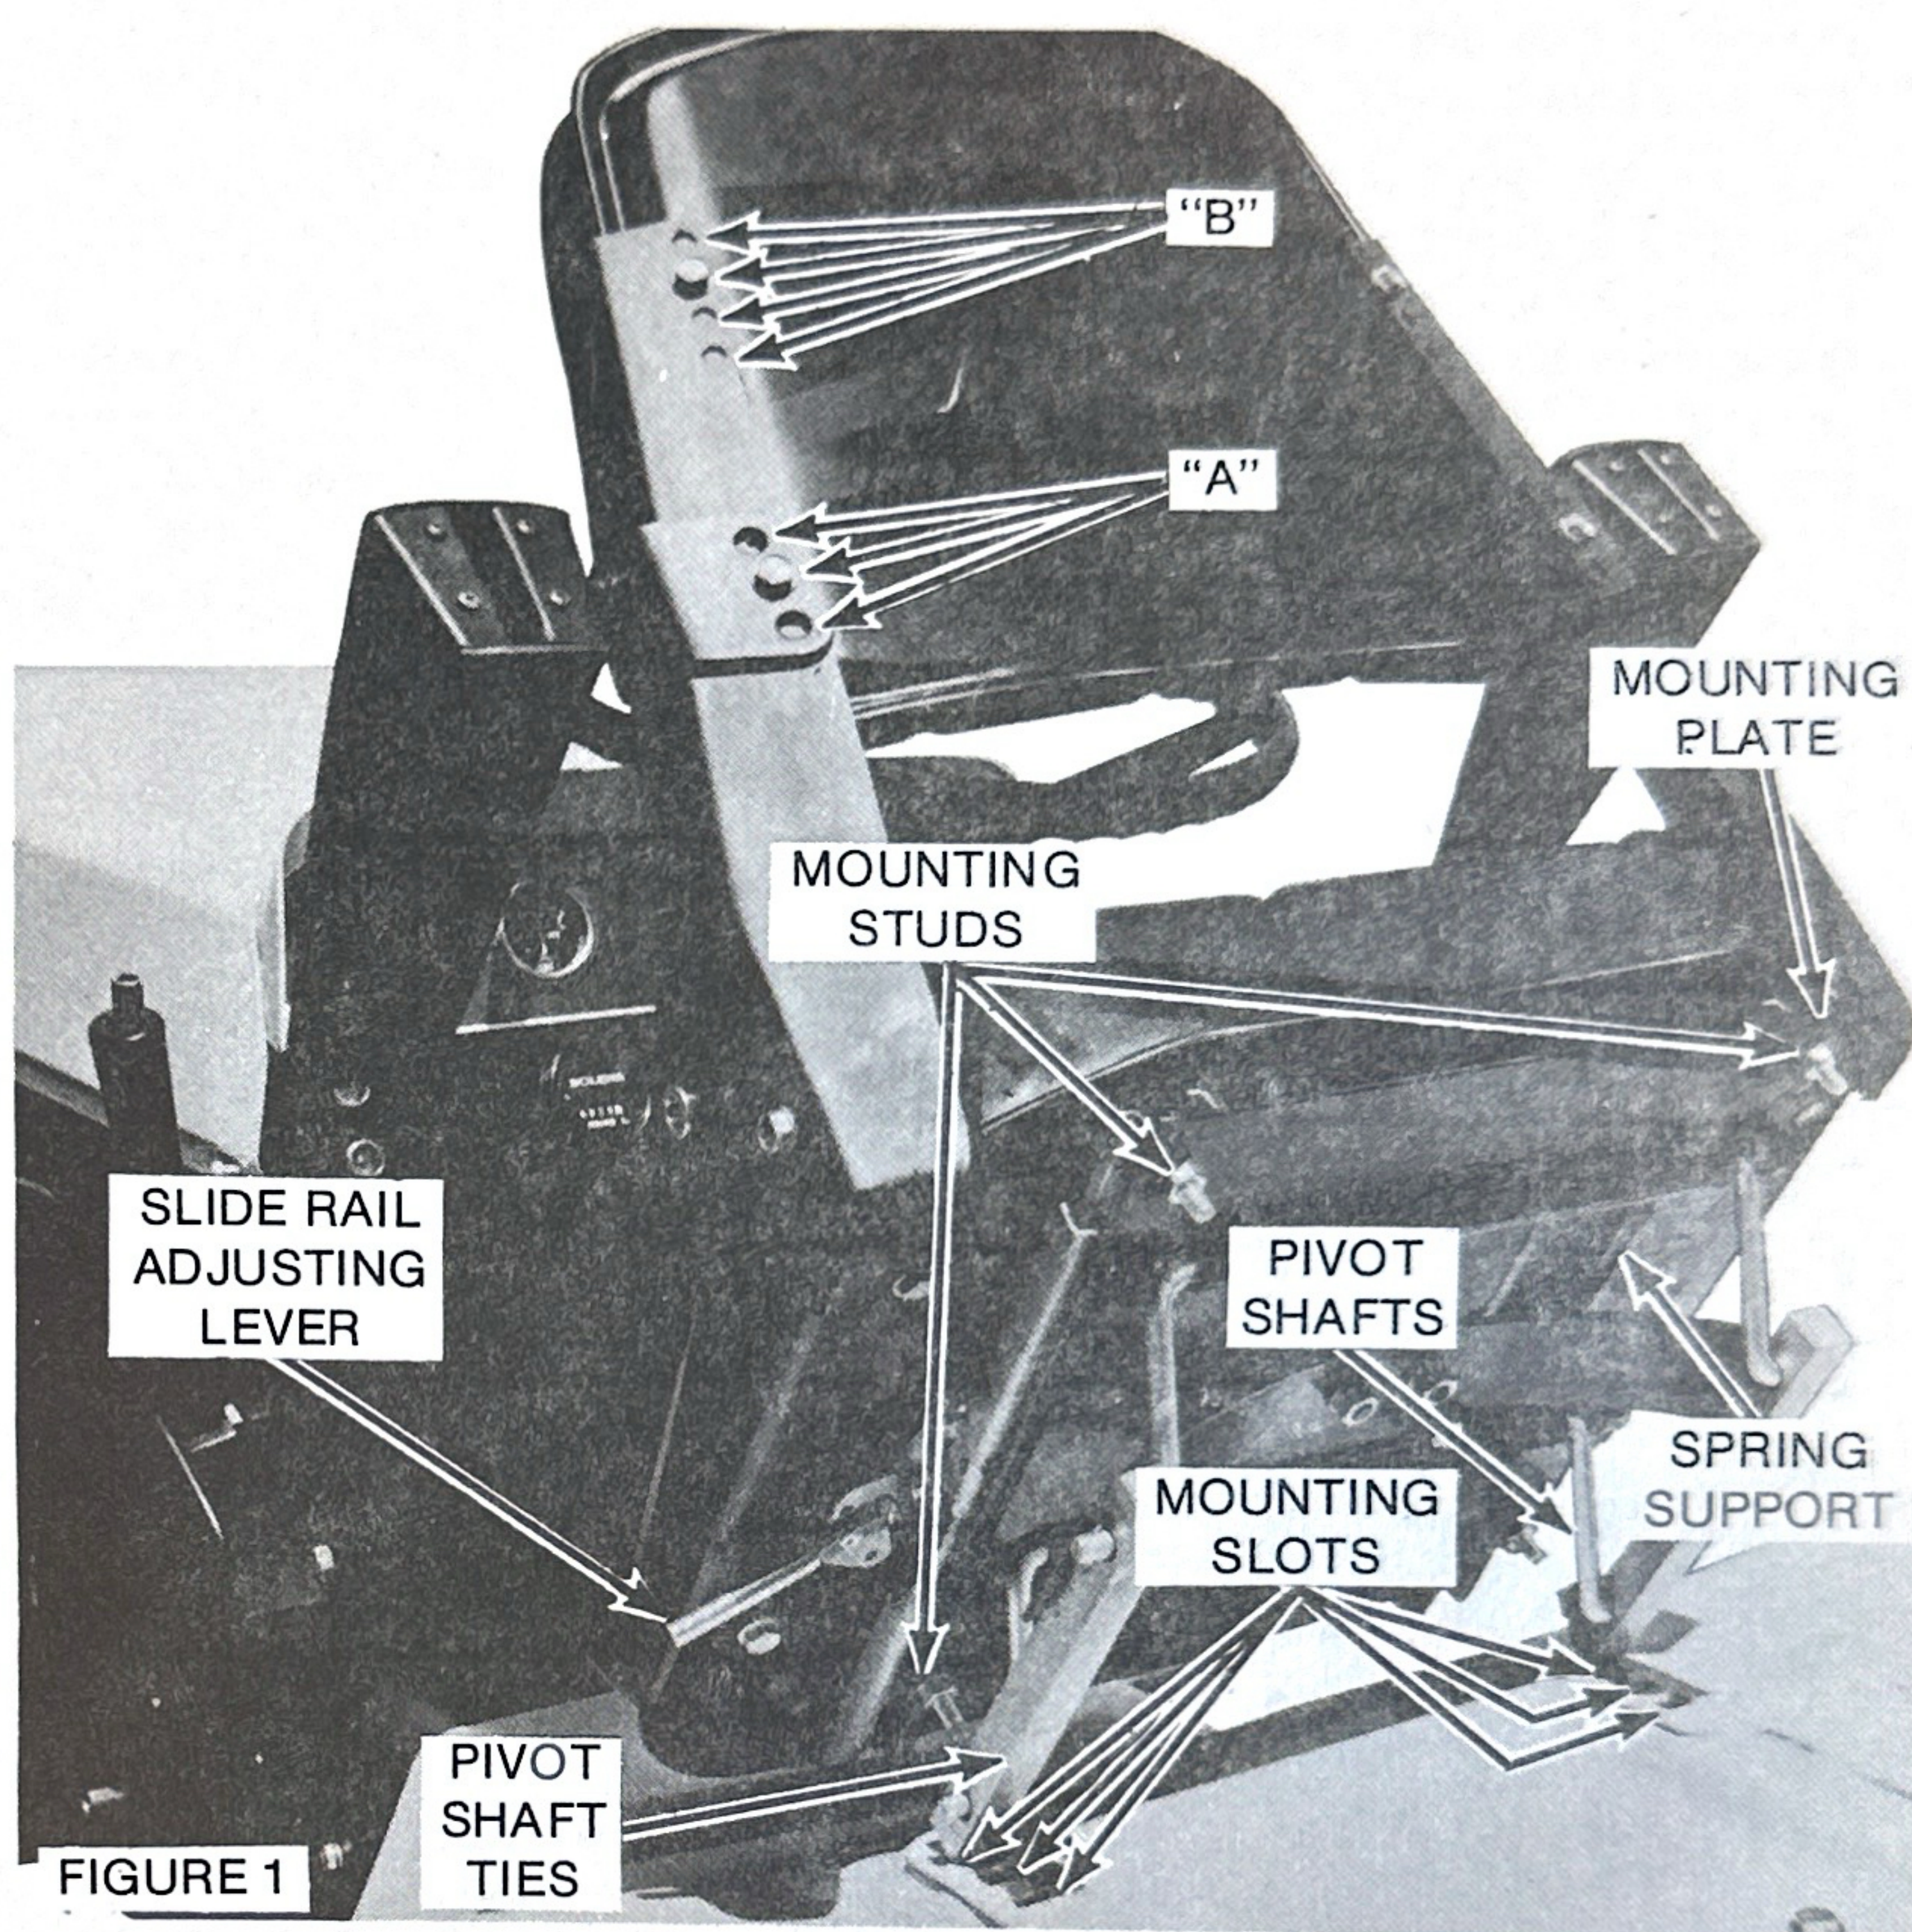

FIGURE 1
3. Position original spring support with pivot shafts, pivot shaft ties and spring onto mounting plate in kit. Secure with two hex capscrews, nuts and lockwashers 3/8-16 x 1". See figures 1 and 2.
4. Position mounting plate and spring assembly over the four 5/16-18 studs on the bottom of the seat adjusting rails. Secure with Hex nut and lockwasher 5/16-18. See figures 1 and 2.
The arm rests can be adjusted to three heights, see "A" figure 1. Remove the capscrew securing arm rest to frame. Move the arm rest either up or down as desired and secure with capscrew removed above.
The back rest can be adjusted to four different heights, see "B" figure 1. Remove capscrews securing back to frame. Reposition the back as desired and secure with capscrews removed above.
Besides the above adjustments the seat is adjustable with a slide rail mount plus the three mounting slots in the fender. See figure 1.